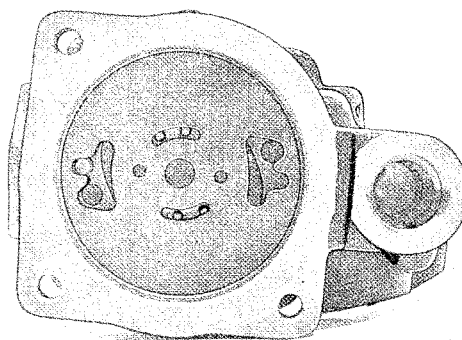

Fig. 6-102. Outer plate installed
10. Install the plate (18) on the intermediate piece as shown in Fig. 6-102. The pin should be in one of the two outer holes.